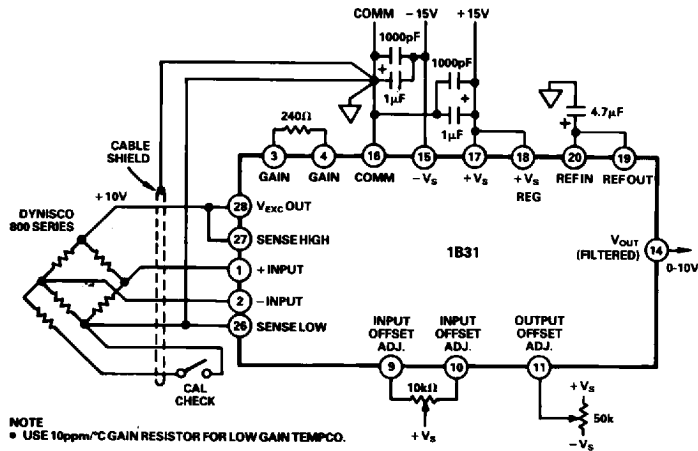

Figure 16. Pressure Transducer Application
**Pressure Transducer Interface:** A strain gage type pressure transducer (Dynisco 800 series) is interfaced to a 1B31 in Figure 16. Regulated excitation of +10V dc is provided for a 30mV full-scale output. The gain is set at 333.3 to achieve a 0-10V output for a 0-10,000 psi range of the transducer. A shunt calibration resistor is built into the transducer for easy verification of the 80%-point of its full-scale output. A typical shielding scheme to preserve the excellent performance characteristics of the 1B31 is also shown. To avoid ground loops, signal return or cable shield should be grounded only at one point.